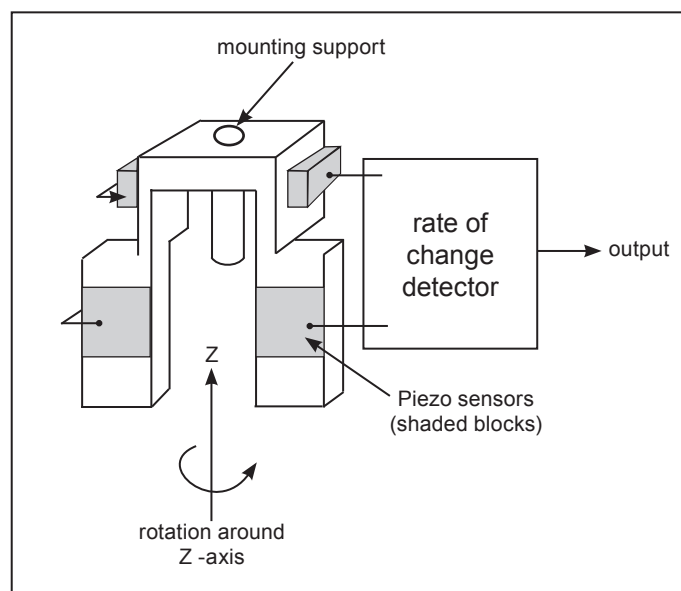

Figure 1 - Piezoelectric gyro construction
Piezoelectric gyros make use of technology similar to that of miniature tuning forks used in low frequency oscillators for watches and clocks. Figure 1 shows a block diagram depicting the fork construction for this device. There are four piezo devices attached to the fork. Two of the piezo devices are used to generate vibration of the fork and two are used for detection of rotation. The delta from one side of the fork to the other is used to determine direction and amount of rotation.
- install the gyro such that the Z-axis is vertical (refer to Figure 1)